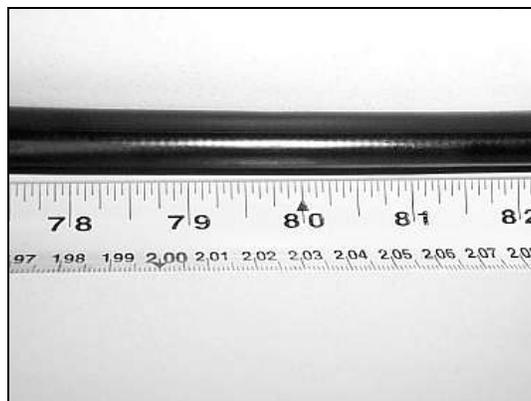

Figure 21 – Measure and mark the cable jacket.
6.1 Consult the closure instructions to determine the length of cable jacket that must be removed for mid-span access. Use electrical tape to make two marks 10 inches apart in the center of the cable section that will be opened for mid-span access (Figure 21).